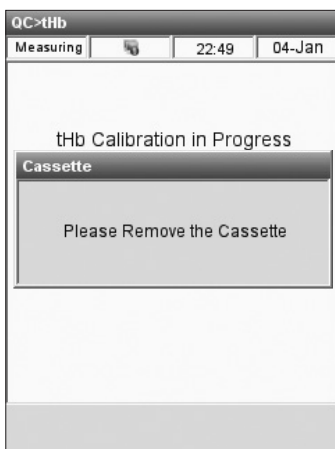

Fig. 7-11 Remove Calibrator
8. After the calibration is complete you will be prompted to open the sample chamber cover and remove the cassette (Fig. 7-11).